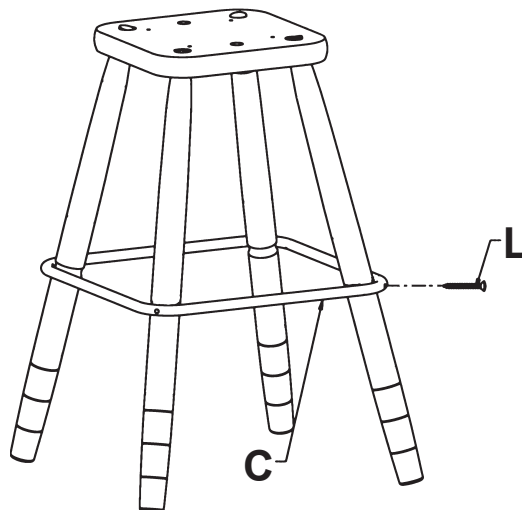

FIG. 4
- 4) Slip the Ring (C) over the top of the leg assembly and down into the grooves in the legs. Make sure that the holes in the ring are centered on each leg, then drill a 1/8" pilot hole approximately 5/8" into the legs. Fasten the ring in place using the #10x 1/2" Oval Head Zinc Screws (L). See FIGURE 4.